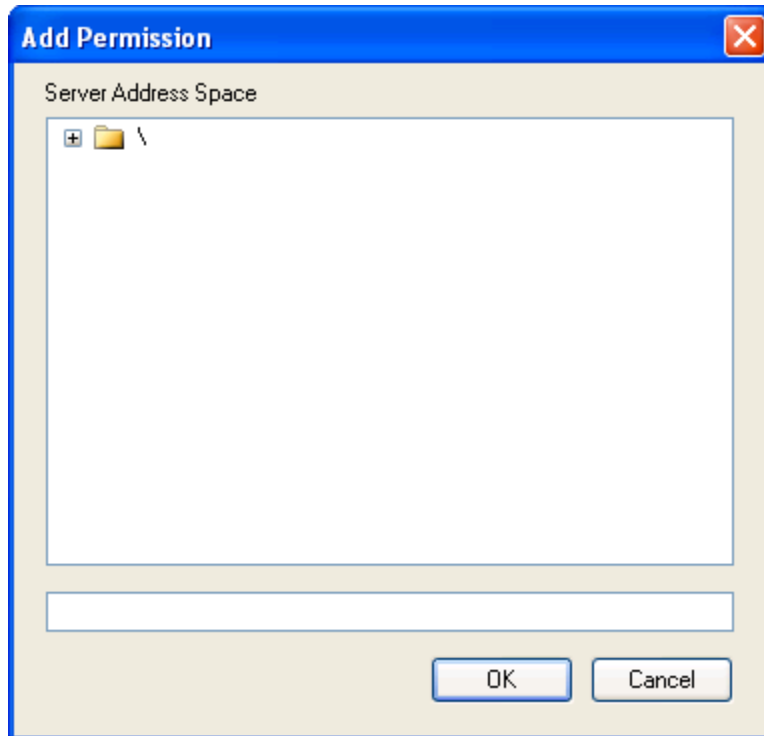

Figure 52 - Add User Permission Window
2. The **Add User Permission** window (Figure 52) appears. This window allows you to browse the OPC server address space to find either a path in the hierarchy, or a particular OPC item.